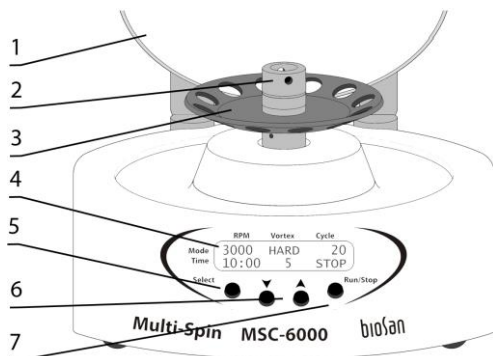

Figure 3. MSC-3000 and MSC-6000
4.4.2. **MSC-3000 & MSC-6000.** To change a rotor (fig. 3/3), open the lid.
Insert the pin for rotor removal into the opening in the fixation head (fig. 3/2). Hold the rotor with one hand and turn the fixation head (using the pin as a lever) counter clockwise to set rotor free. Change the rotor and fix it in place in reverse order. Close the lid and disconnect the external power supply from the mains.
5.2.1. Connect the external power supply to the grounded mains socket. Display (fig. 3/4) lights up and lid (fig. 3/1) unlocks (**MSC-6000**).
5.2.3. **Parameter setting.** Press the **Select** key (fig. 3/5) to choose a parameter to change. Each consecutive press of the **Select** key sequentially activates parameters in cycle. The active parameter will be blinking. Use **▲** and **▼** keys (fig. 3/6) to set the necessary value. Pressing the key down longer than 2 s will make the values change quickly.
5.2.4. Press the **Run/Stop** key (fig. 3/7) to start the program. Display shows indication RUN (fig. 7/2) and, for **MSC-6000**, lid lock symbol (/, fig. 7/1).